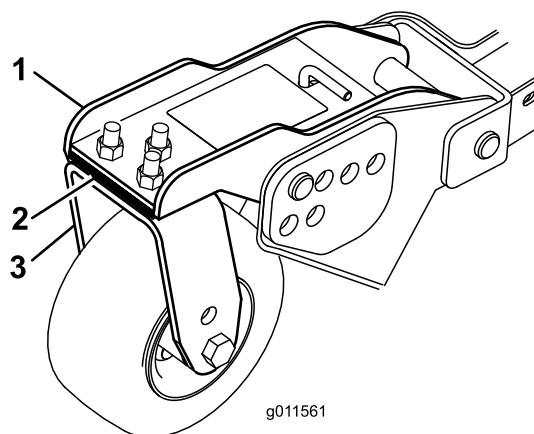

Figure 80
1. Remove the cap screws and nuts securing the castor arm to the castor fork (Figure 80).